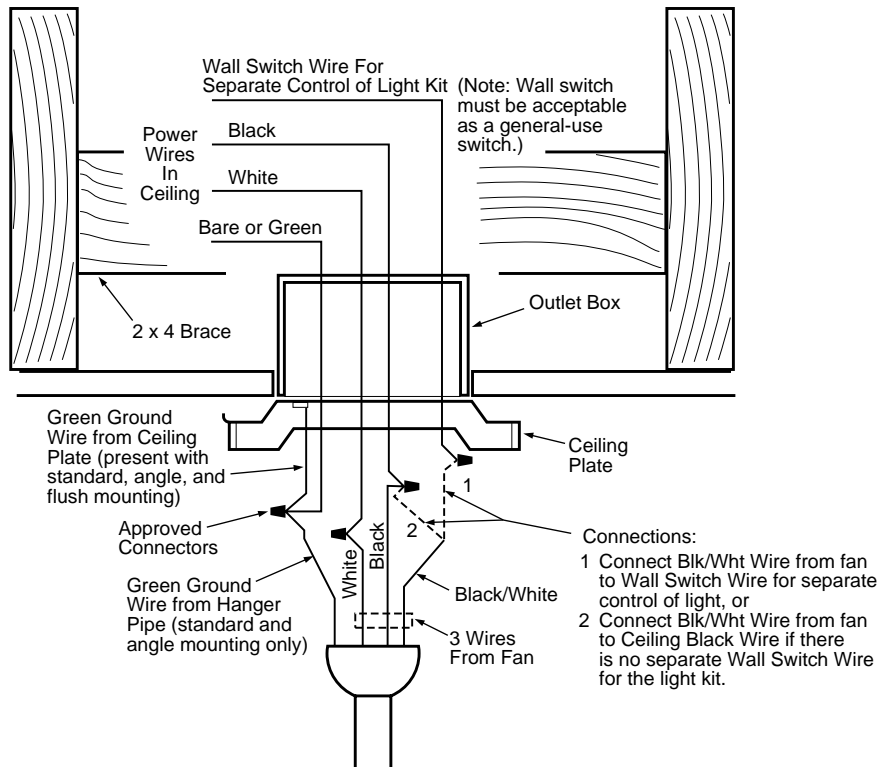

Figure 5c - Wiring Diagram
4. Connect the wires as shown in Figure 5c. To connect the wires, twist the bare metal leads together. Place a wire nut over the intertwined length of wire and twist clockwise until tight as shown.